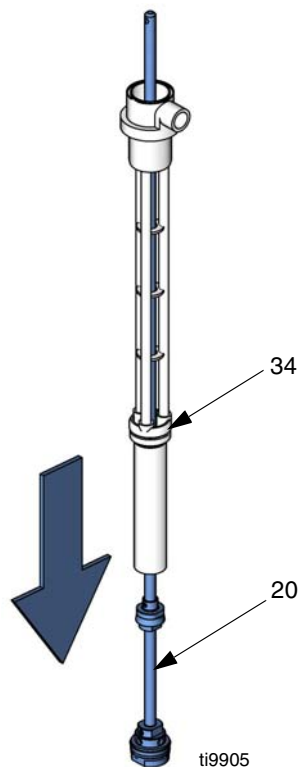

FIG. 20
7. Pull transfer shaft (20) out the bottom of pump body (34). See FIG. 20.